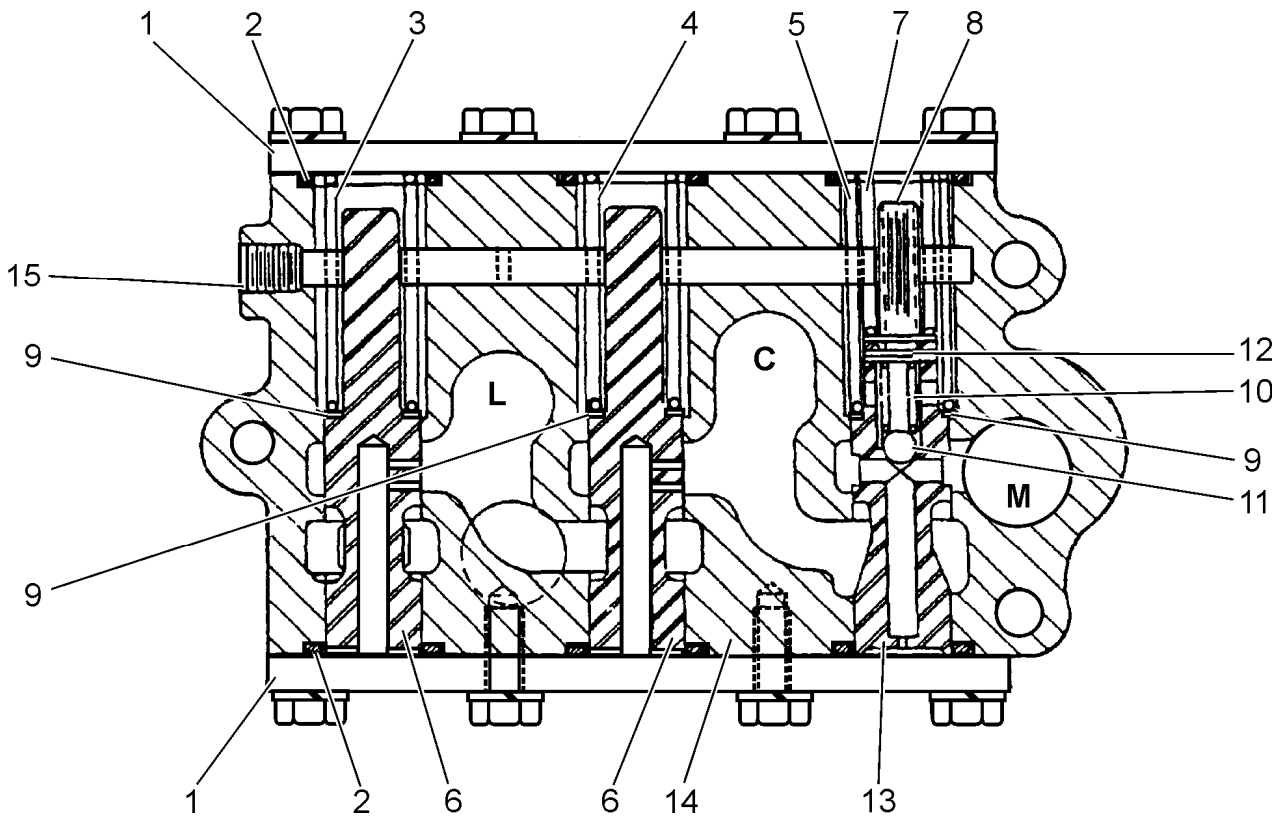

Fig. 7C.10. Cross Section of Pressure Regulator Valve
9. REMOVAL AND DISASSEMBLY (Refer to Fig. 7C.10 and 7C.11)